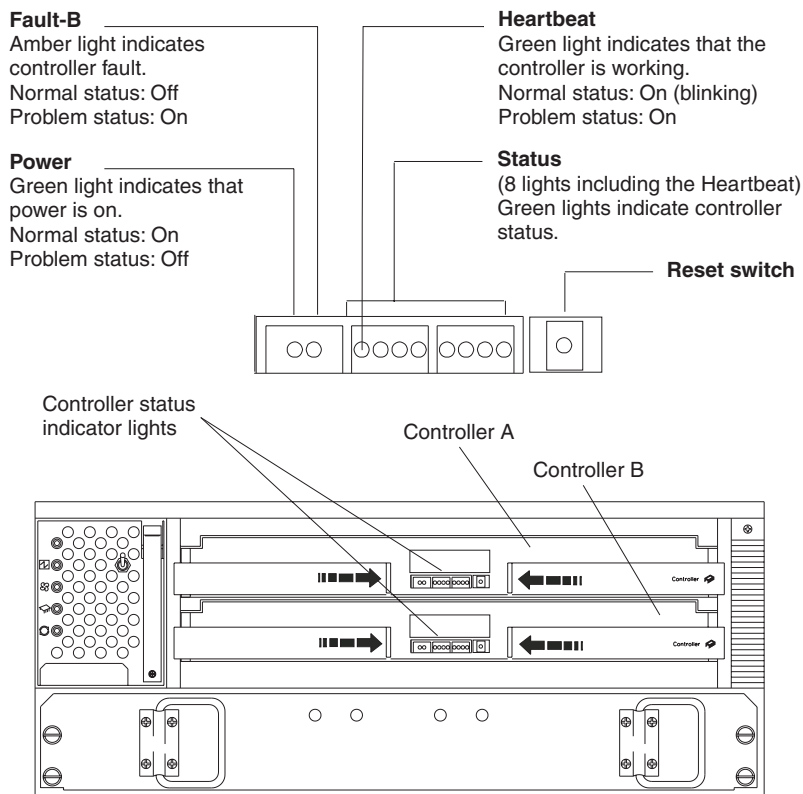
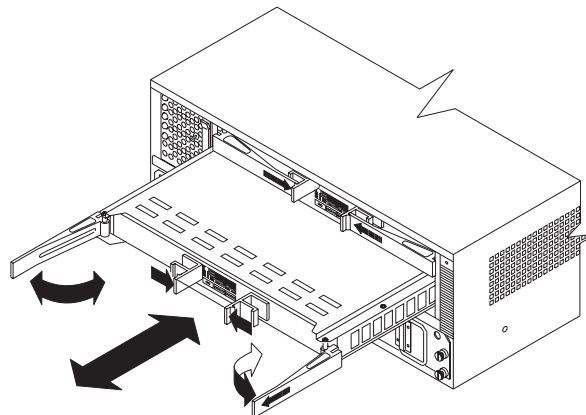

Figure 32. Controller status indicator lights
Figure 33. Removing and replacing a failed controller CRU
Each controller comes in a removable, portable unit, called a controller CRU, as shown in Figure 33 on page 37. Each controller CRU slides into one of two controller slots on the front of the FAStT700 Storage Server and attaches to hosts through Fibre Channel connections. Two handles lock the controller in place. Each controller slot has a controller slot designation that identifies the physical location of the controller in the chassis: controller slot A (top) or controller slot B (bottom). Each controller CRU has ten indicator lights: one power, one fault, and eight status indicator lights, as shown in Figure 32 on page 36.
2. Using Figure 33 as a guide, remove the controller that has failed.
4. Using Figure 33 as a guide, install the new controller as follows: